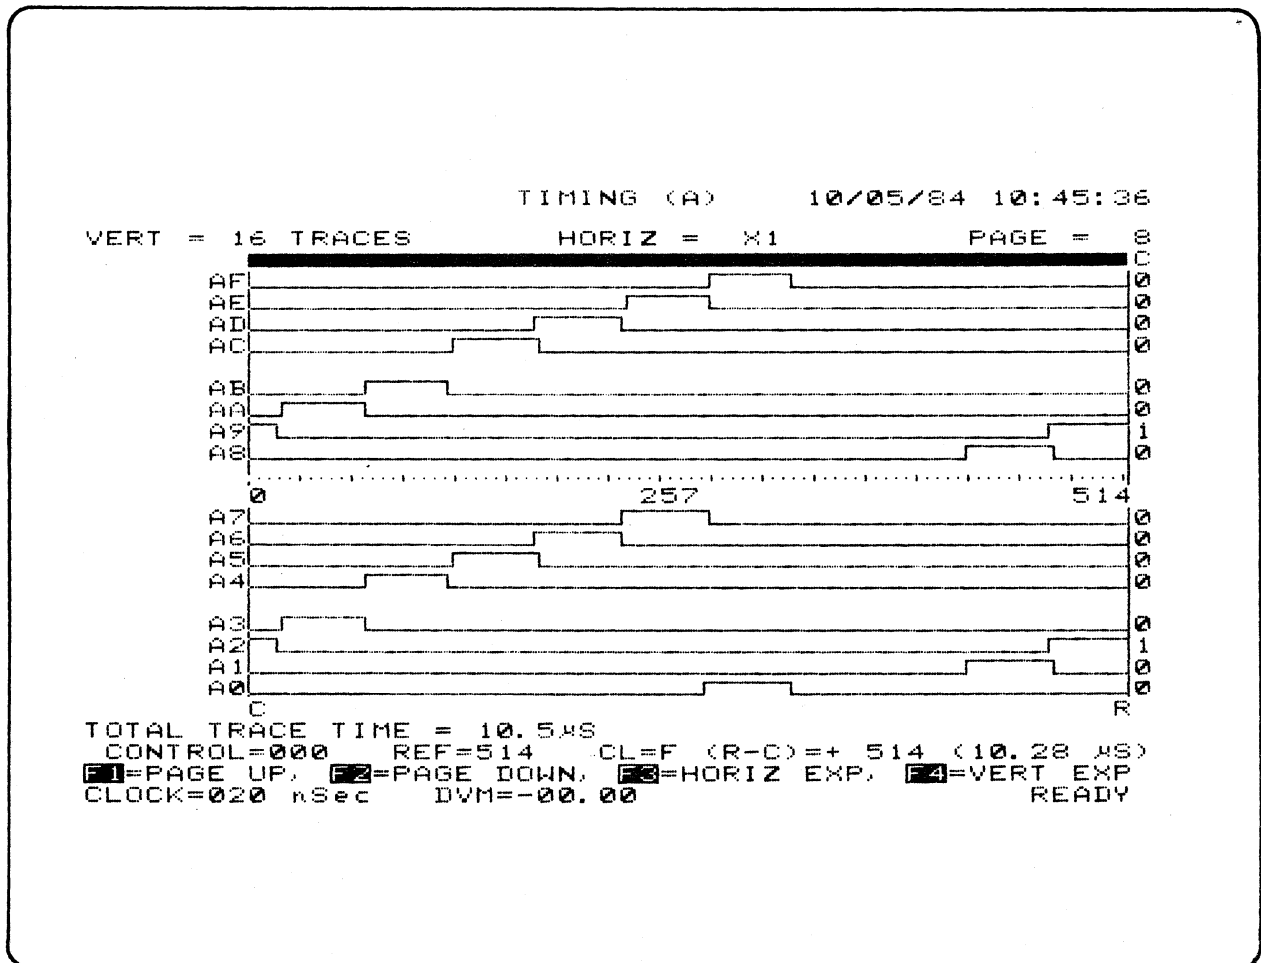

Figure 3-1. Typical Probe Test Recording Using ECL Threshold
3. Depress the TIMING key and observe the display pattern. A staircase pattern of pulses (shown in Figure 3-1) should appear on the screen. This pattern may begin at any point on the screen as determined by the Default Setup. Memory is filled with samples starting at Location 0 in the data stream.